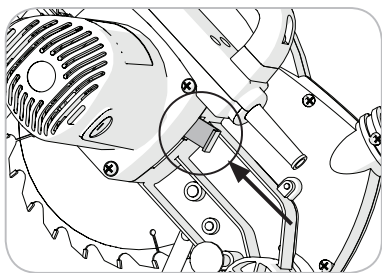

Fig.25
- Press the black arbor lock button to lock the arbor. **(Fig. 25)**